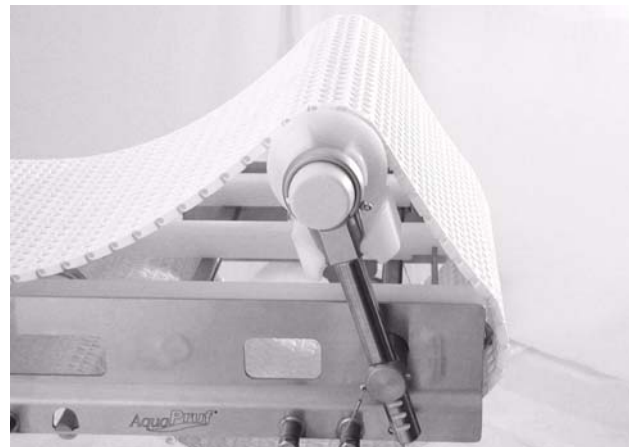

Figure 43
2. Tip up idler tail assembly (**Figure 43**).